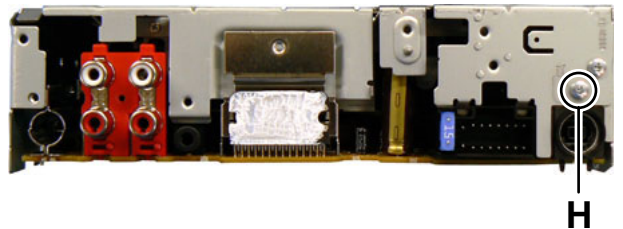

Fig.4
- (2) Remove the one screw **H** attaching the CD-CH jack. (See Fig.4)